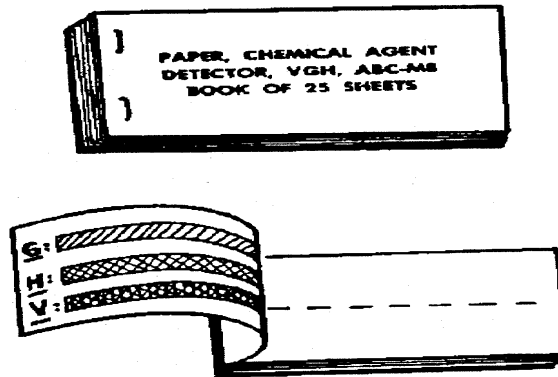

Figure 5-6. M8 Paper
b. Soldiers receive two types of chemical agent detector paper. The ABC-M8 VGH chemical agent detector paper is called M8. It detects and identifies liquid agents. The M9 does not identify agents. M8 detector paper (Figure 5-6) comes in booklets of 25 sheets. Use the M8 paper to detect and identify liquid V-or G-type nerve agents or H-type blister agents. The sheets are impregnated with chemical compounds that turn dark green, yellow, or red upon contact with a liquid chemical agent. A color chart in the booklet helps determine type of agent contacted. The paper must touch liquid agent; it does not detect vapor. It is best suited for use on nonporous materials. Because some solvents